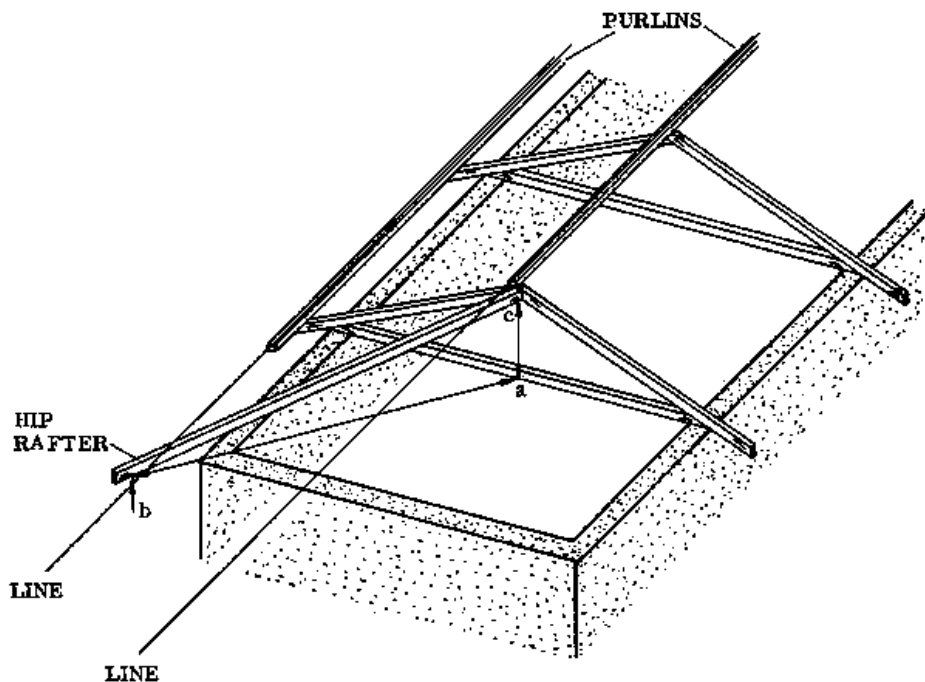
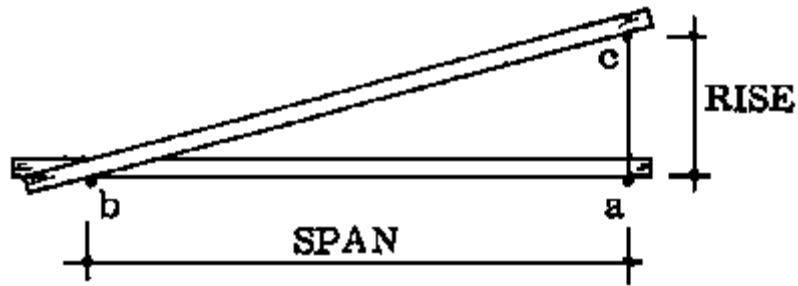

Fig. 2
Fig. 3
a. Lay two purlins flatwise near the eave and ridge, across the last 3 full trusses of the roof. Make sure that they are aligned parallel to the wall, and nail them temporarily (Fig. 2).
b. Fix a line along the top surface of each purlin. The lines should extend past the ends of the purlins to the end wall of the building, where they can be held taut by a temporarily fixed pole. The lines must be taut and parallel to the side wall. Each line should touch the whole length of the top surface of the purlin (Fig. 2)
d. Now another man can measure the length of the hip truss tie beam, which will be the horizontal distance from the centre of the full truss tie beam (Fig. 2, point a) to the soffit of the hip rafter outside the wall (point b). This distance is the span of the tie beam for the hip truss (see Fig. 3).